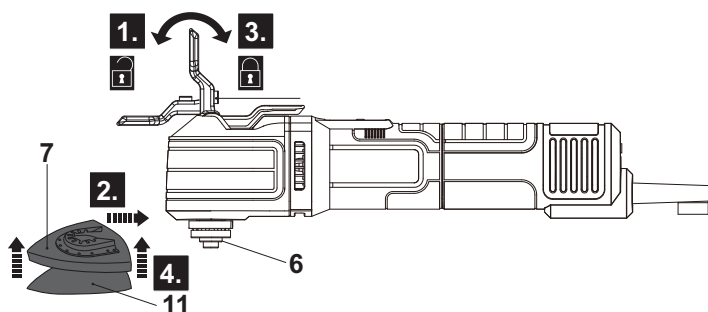
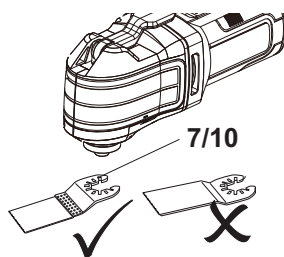

Fig. 1
Fig. 4
- > Open the SDS tool holder (6) by opening the SDS clamping lever (1) fully (Fig. 1, step 1).
- > Slide sanding base plate (7) onto the SDS tool holder (6) and ensure the grooves on the back of sanding base plate (7) fit with the pins on the upper/ fixed part of the SDS tool holder (6) (Fig. 1, step 2).
- > Fix the sanding base plate (7) by closing the SDS clamping lever (1) fully (Fig. 1, step 3).
- > Check if the sanding base plate (7) is reliably clamped and make adjustment if necessary.
- > With the hook-and-loop system, sanding papers are simply pressed on the base plate. Align and attach the required sanding paper (11) to the base plate (7) and slightly press the sanding paper (11) to fix it (Fig. 1, step 4).
- > Open the SDS tool holder (6) by opening the SDS clamping lever (1) fully (Fig. 1 , step 1).
- > Slide desired tool attachment (8, 9, 10 or 12) onto the SDS tool holder (6) and ensure the grooves on the back of tool attachment fit with the pins on the upper/ fixed part of the SDS tool holder (6) (Fig. 1, step 1; Fig. 4, 5, 6).
- > Fix the tool attachment (8, 9, 10 or 12) by closing the SDS clamping lever (1) fully (Fig. 1, step 3).